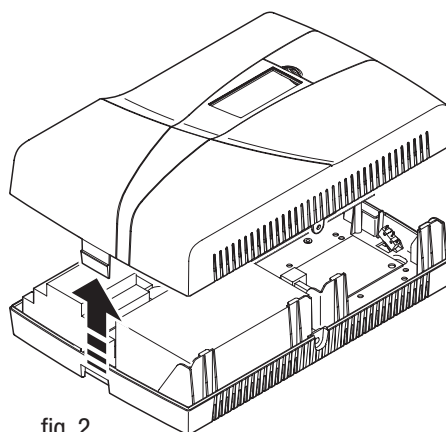

fig. 2
- lift the Control unit cover (fig. 2).